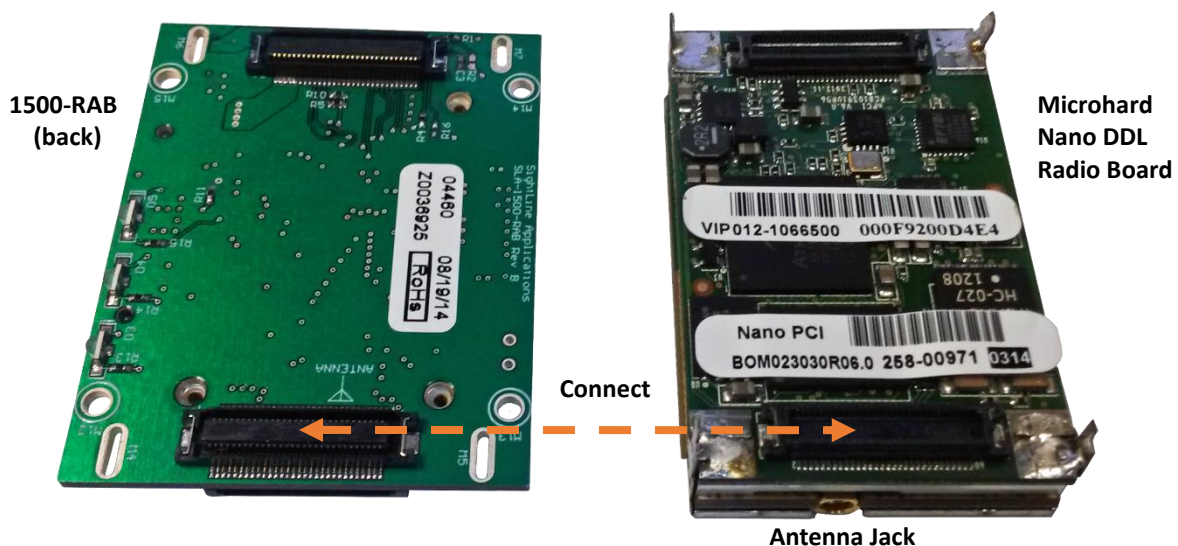

Figure 3: 1500-RAB and Microhard Nano DLL Radio Board Connection
2. Turn the 1500-RAB board assembly over. Line up the connector with the antenna symbol on the 1500-RAB board with antenna connector on the Nano DDL board as shown in Figure 3.